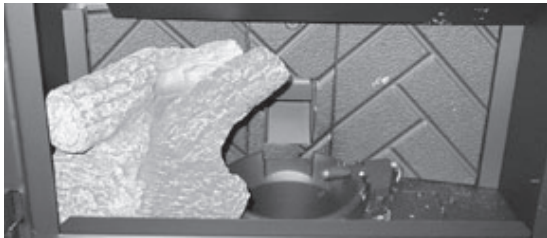

Figure 25.1
2. Install the left log first and then the right log. **Figure 25.1**